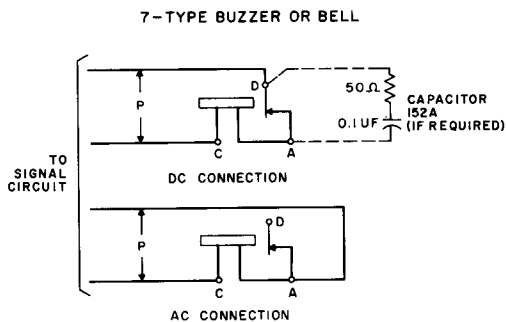

Fig. 23—AC and DC Connections
- 6.05** Connect 7-type buzzers or bells as shown in Fig. 23.
- 6.06** Where radio frequency induction is caused by a sparking buzzer or bell contact, operating power should be ac and connections should be to the ac terminals. A 152A capacitor should be used across buzzer contacts when power supply is dc (Fig. 23).